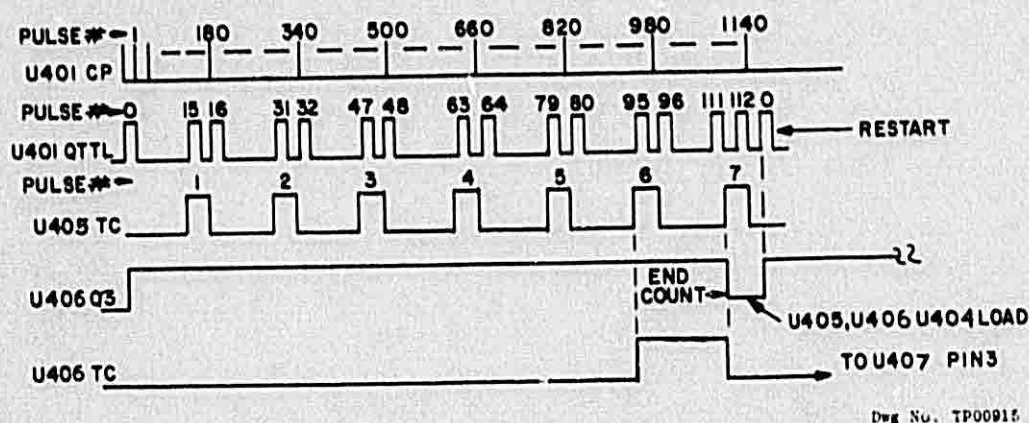

FIGURE 4-12. SYNTHESIZER DIGITAL TIMING FOR 116.90 MHz
When the +N counter has reached its end count, Q3 (pin 11) of U406 goes logic LOW. Q3 is connected to the parallel enable (PE) inputs of U404, U405, U406. When the PE input is logic HIGH the counters are set in the Count Mode, when PE is logic LOW, the counters are set in the Load Sequence. In our example, the +N number is 1140 and the count sequence will begin after the counters are loaded. Refer to Figure 4-12.